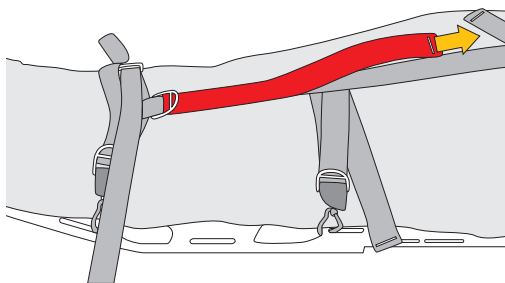

Fig.20
e) conclude the immobilisation by using the longitudinal lock (fig. 20),